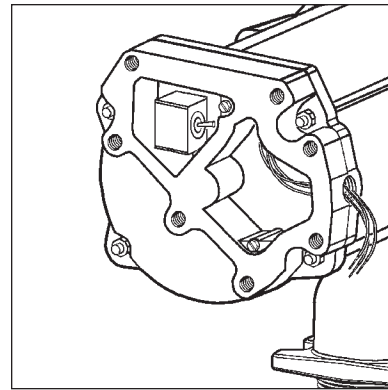

Figure 2
1. Remove electrical coverplate (Figure 2). Install conduit and cable from switchbox to pump electrical box. Wiring must be in accordance with Class I, Division 1 requirements in the applicable national electrical code.